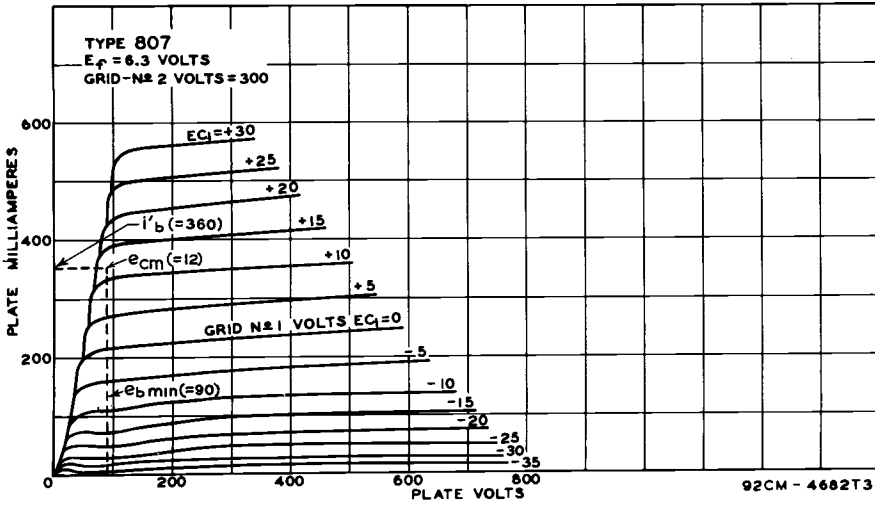
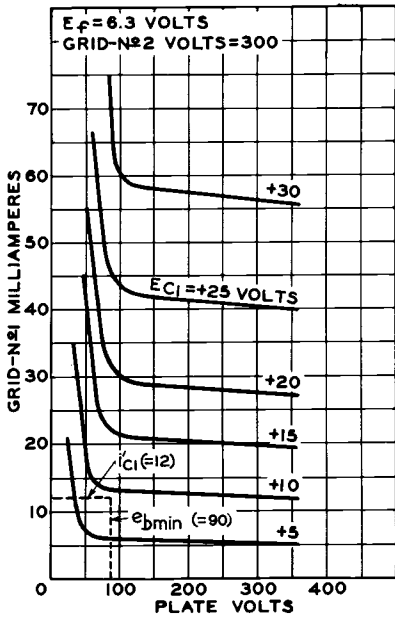

Fig. 1. Average plate characteristics for the type 807 tube (grid-No. 2 voltage = 300).
Fig. 2. Average control-grid characteristics for the type 807 tube grid-No. 2 voltage = 300).
4. From the 300-v  $E_{c2}$  curves, Fig. 1, select  $e_{bmin} = 90 \text{ v}$ , and read  $e_{cm} (= +12 \text{ v})$ . From Figures 2 and 3, read  $i'_{c1} = 12 \text{ ma}$ , and  $i'_{c2} = 35 \text{ ma}$ , respectively.
10.  $E_{c1}$  (from Fig. 1) = -35 v.